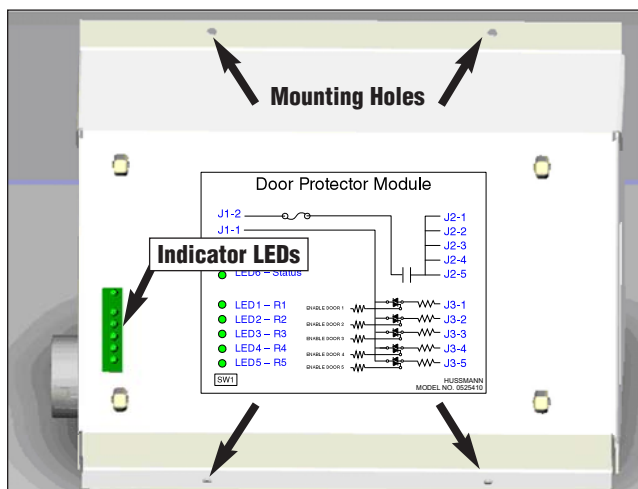

Figure 1 — Door Protector in Sheet Metal Enclosure
Figure 1 shows the IDP enclosure. Note the indicator lights on the left.
4. Determine a location for the IDP which will vary depending on optional equipment already installed. Allow space to connect door harness on right side and power on left side. Refer to Figure 1.